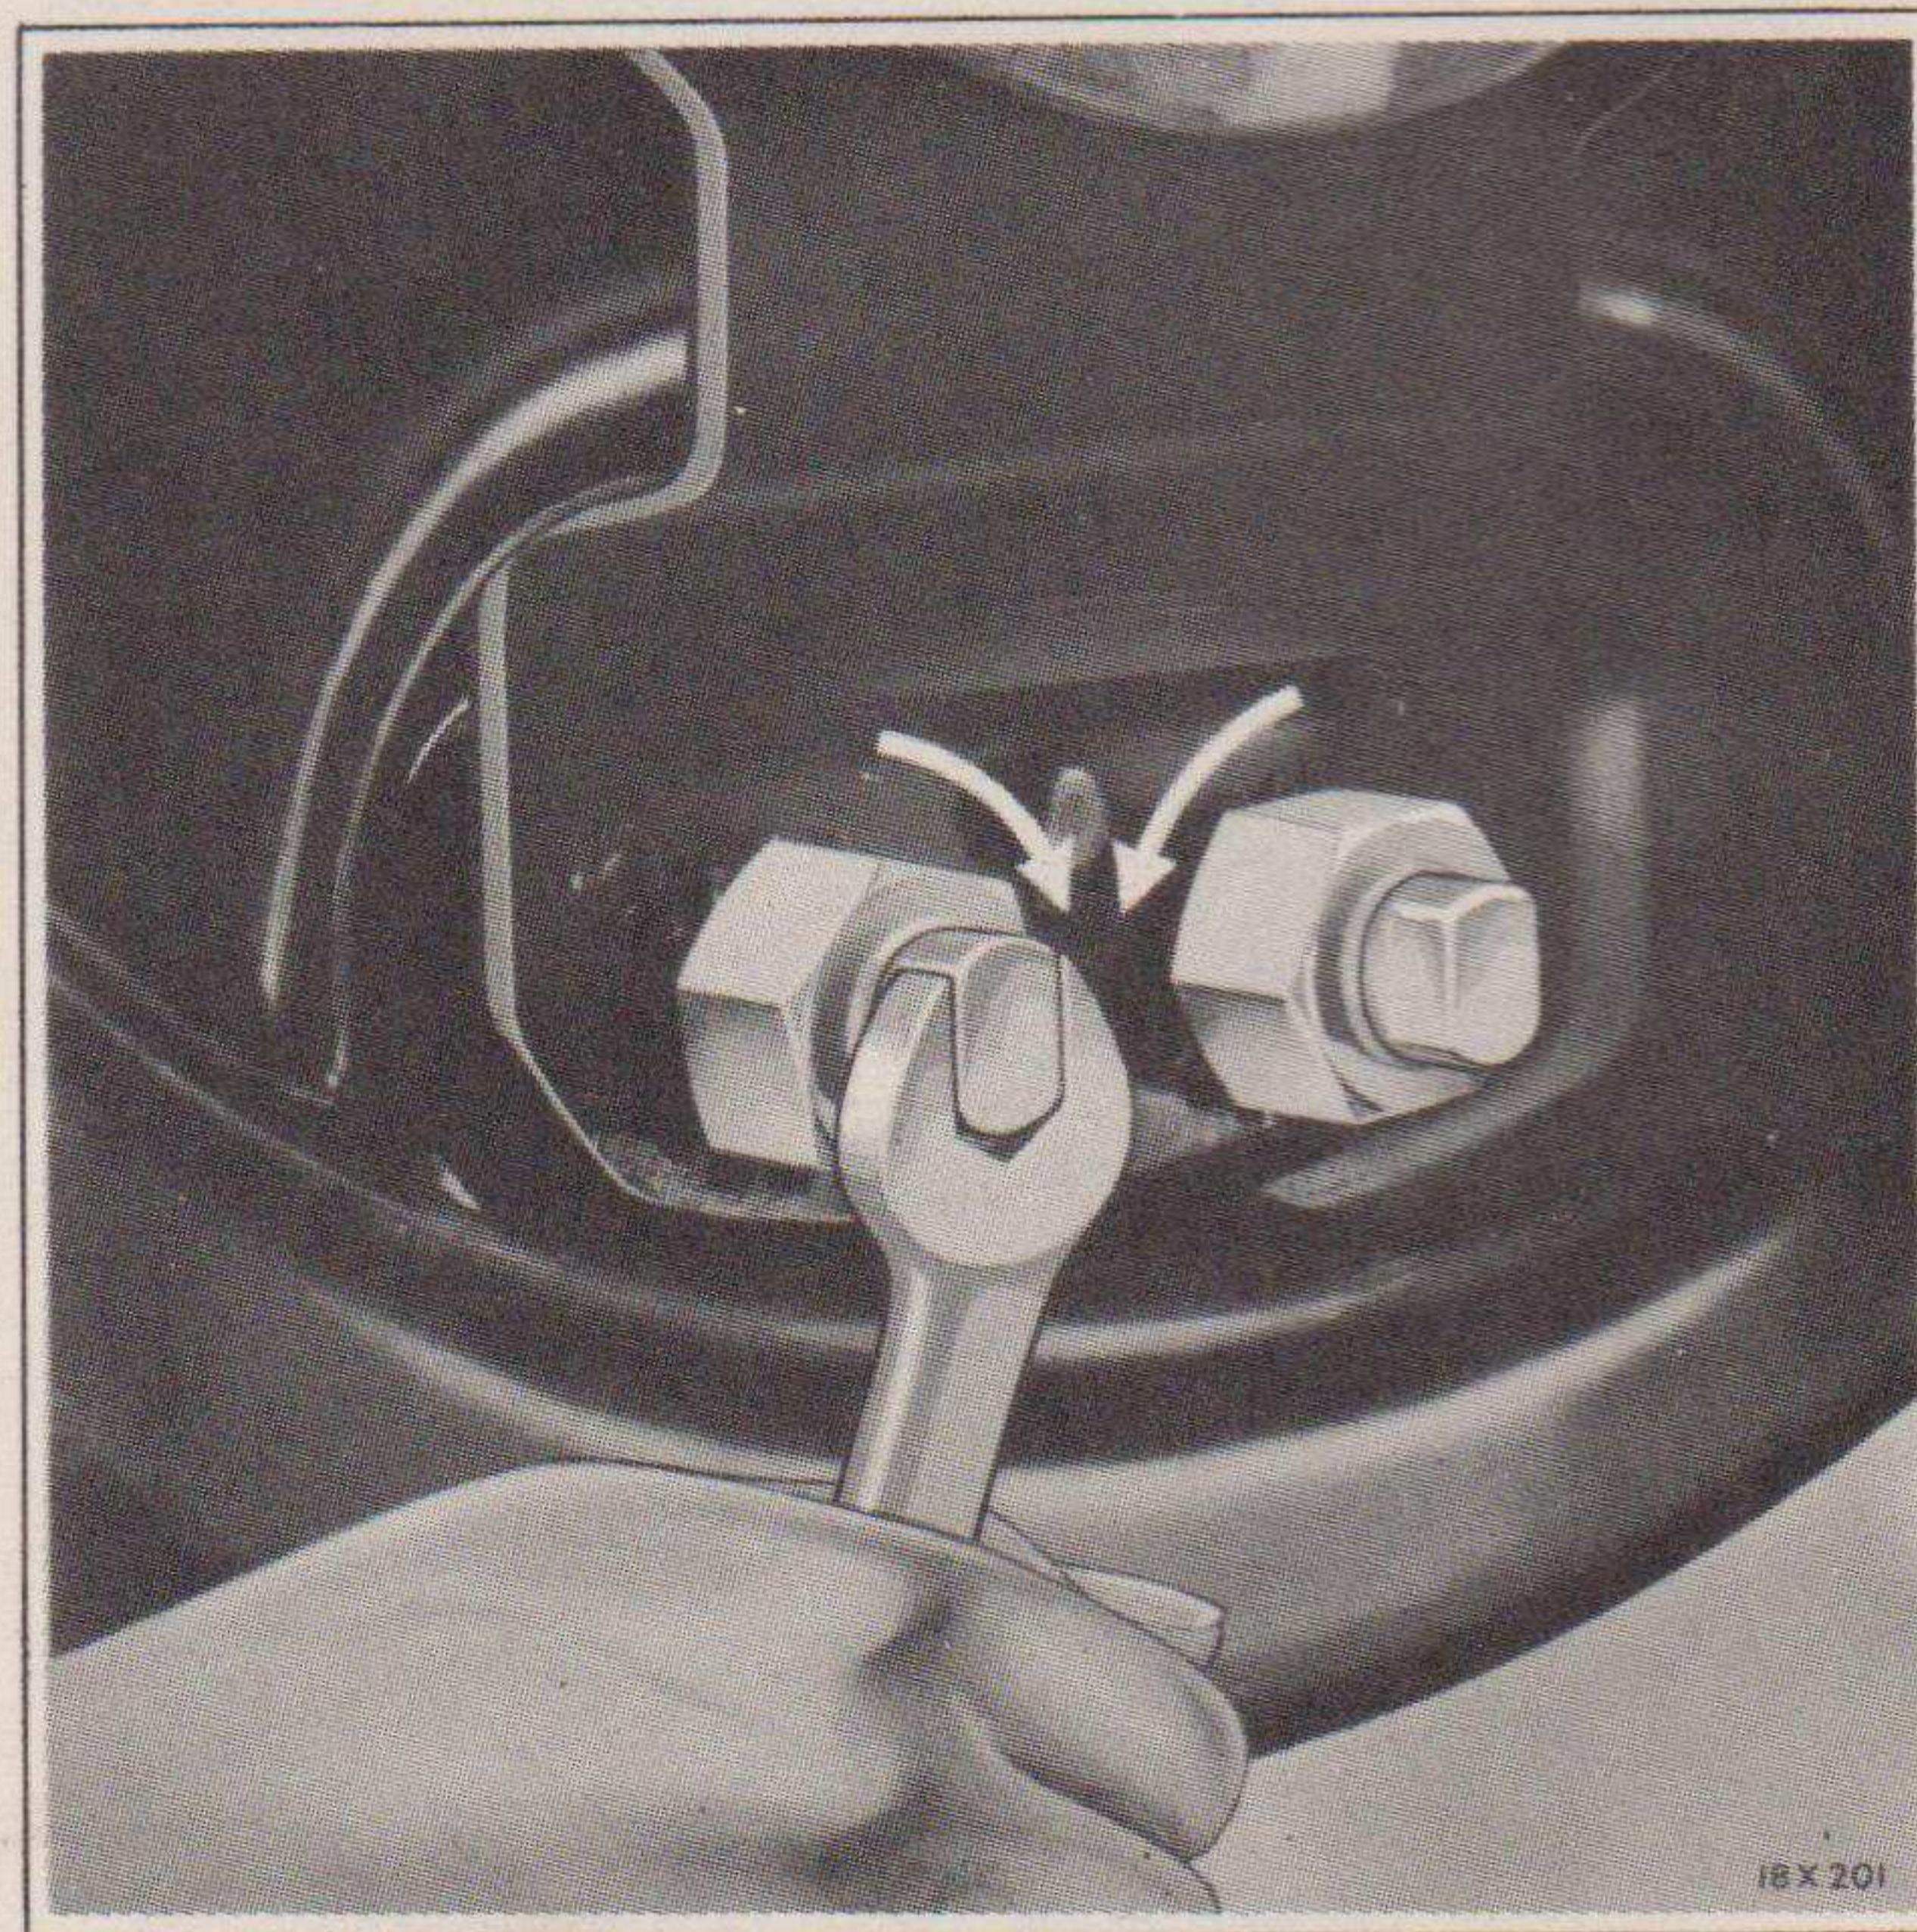

Fig. 77—Brake Shoe Anchor Bolt Adjustment
- (c) If necessary to change the position of anchor bolt, turn the right-hand bolt of any pair *counter-clockwise* and the left-hand bolt of the same pair *clockwise* to *decrease* clearance between lining and drum. See Fig. 77.